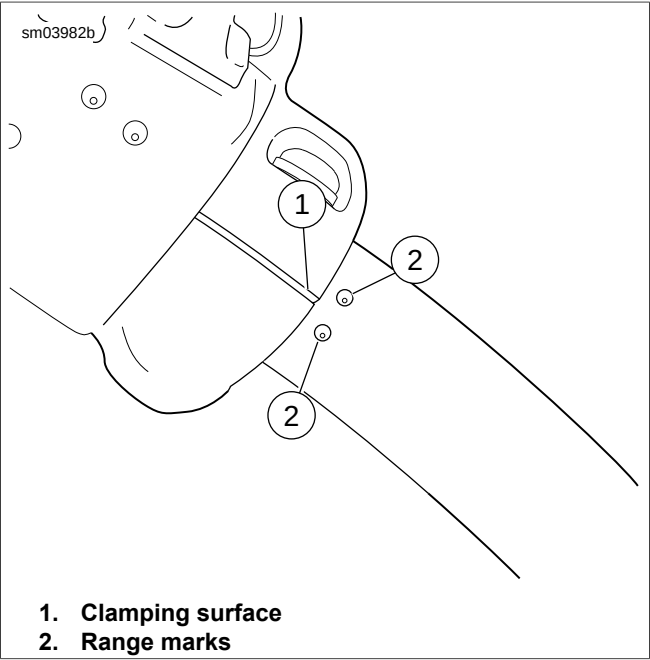
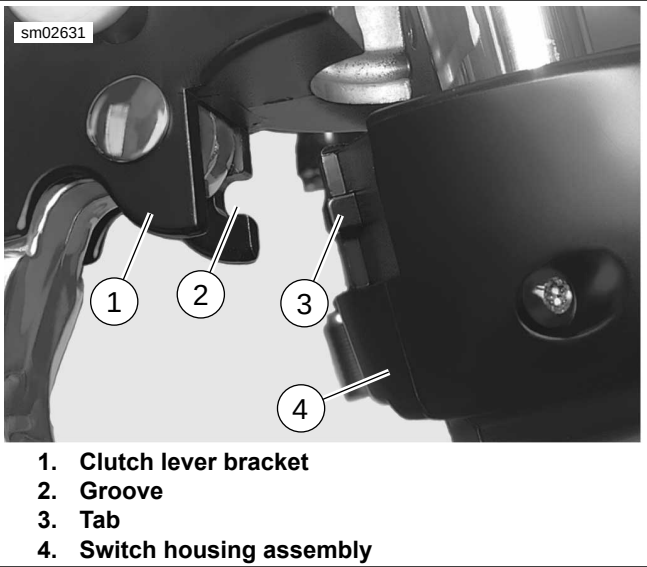

Figure 7-116. Left Hand Control Assembly to Handlebar Alignment
Figure 7-117. Clutch Lever Bracket
See Figure 7-116. When installing left handlebar switch assembly for motorcycles with internally wired handlebars, make sure the clamping surface (1) stays within the range marks (2) or damage to the wires will occur.
2. Install retainer (1) with screws (3). Tighten to 8-10 **in-lbs** (0.9-1.1 Nm).
5. See Figure 7-117. Position the clutch hand lever assembly inboard of the switch housing assembly, engaging the tab (3) on the lower switch housing in the groove (2) at the bottom of the clutch lever bracket.